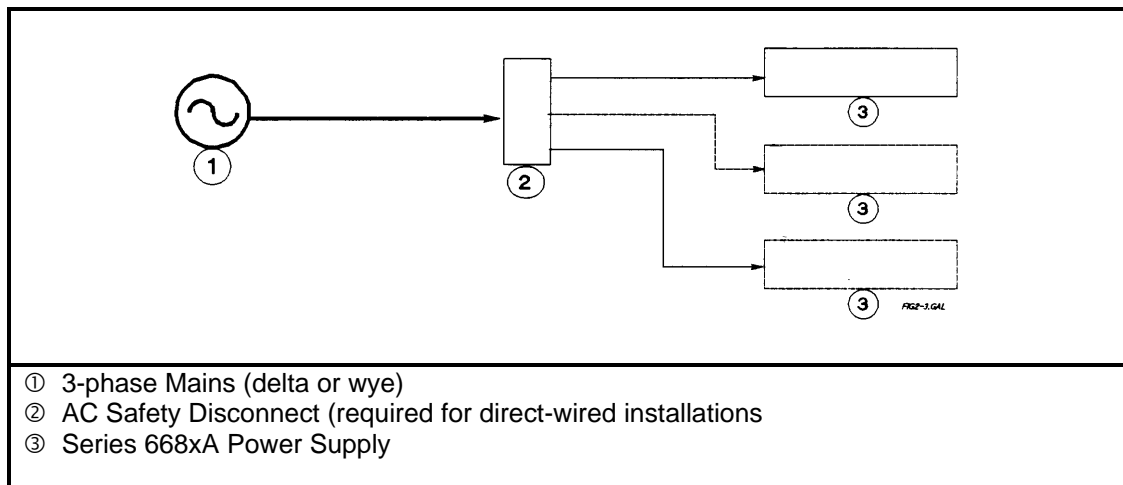

Figure 2-4. Series 668xA Overall Wiring Diagram.
The power supply requires a 3-phase power source that provides 7350 VA (6000 W) maximum. The power supply has a delta input (no neutral connection) and will accept power from either delta (triangle) or wye (star) sources. Two voltage ranges are available (see "AC Input Ratings" in Table 1-4a). *In order to maintain phase current balancing, the power source should be a dedicated line with only Agilent Technologies Series 668xA supplies drawing current from it.* A disconnect box located near the power supply (see Figure 2-4) is recommended for all installations and *is mandatory for direct-wired installations.*
- c. **Series 668xA** - Unscrew the fuse caps from the rear panel (2, Figure 2-4). Verify that the fuse is as specified on the label. Replace the fuse.